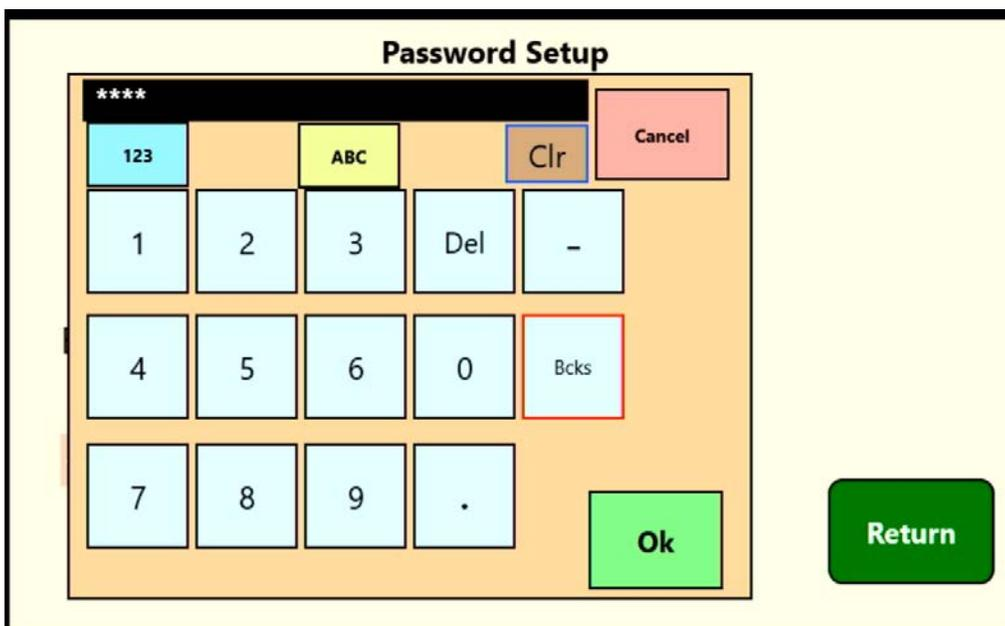

Figure 87
13. Type in the new PIN number (Figure 87)